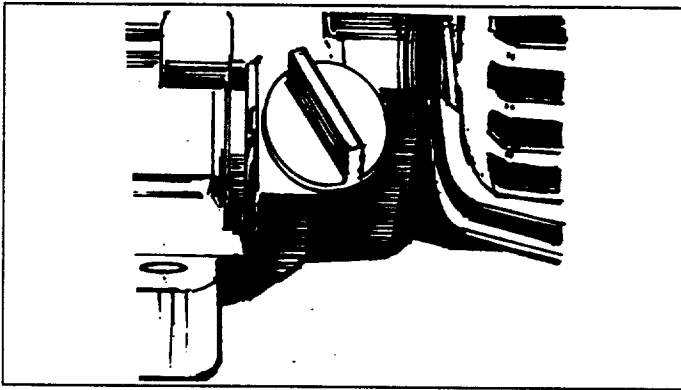

FIG. 4
- Place generator on a level surface and remove one of the yellow Oil Fill Caps (Fig. 4) and add engine oil until level is at point of overflowing. Check engine oil level before starting each time thereafter. If oil level is below point of overflowing, fill to proper level. The recommended oils include (during summer months) SAE 30 oil. SAE 10W-30 is an acceptable substitute. During winter months use SAE 5W-20 or 5W-30. DO NOT USE 10W-40. Crankcase oil capacity is about 620ml or 21 fluid ounces.